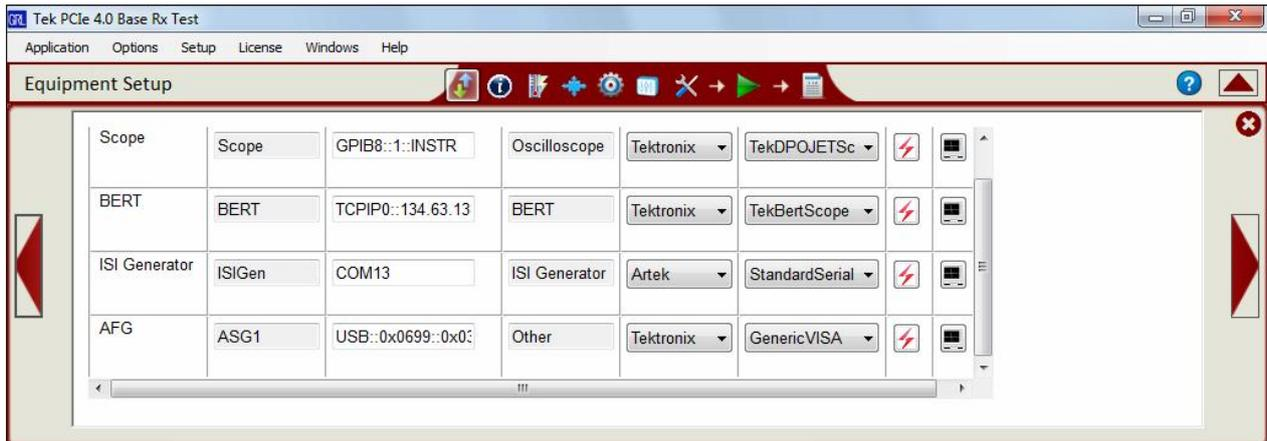

FIGURE 7. EQUIPMENT SETUP WINDOW
9. Note these settings, as shown in Figure 7: